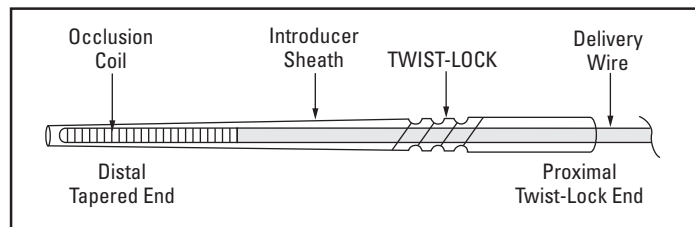

Figure 3. Introducer Sheath with Twist-Lock Mechanism
3. Release the IDC Coil inside its introducer sheath by gently pinching the sheath on both sides of the twist-lock mechanism and rotating the proximal side counter-clockwise 2-3 rotations (Figure 3 and 4).